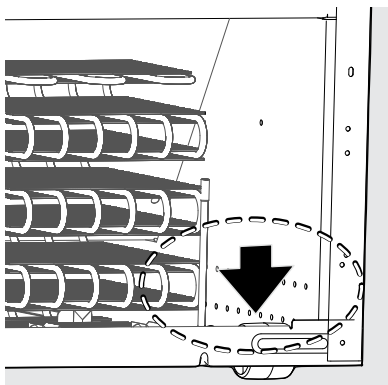

Figure 17
17. Plug the connector on the supplied water valve into the harness found in the bottom right of the compressor compartment. See Figure 17.